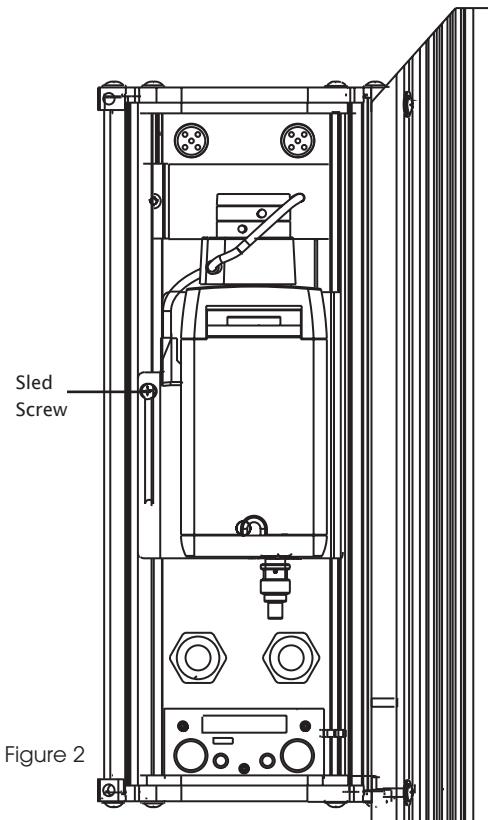

Figure 2
3. Place the sled leg of the completed camera sled assembly into the channel on the bottom of the housing. Adjust the camera sled until the key slot hole aligns with the Phillips head screw. Make sure the camera sled is seated properly. Slide the camera sled forward to the desired position. Tighten the screw to secure the camera (Figure 2).